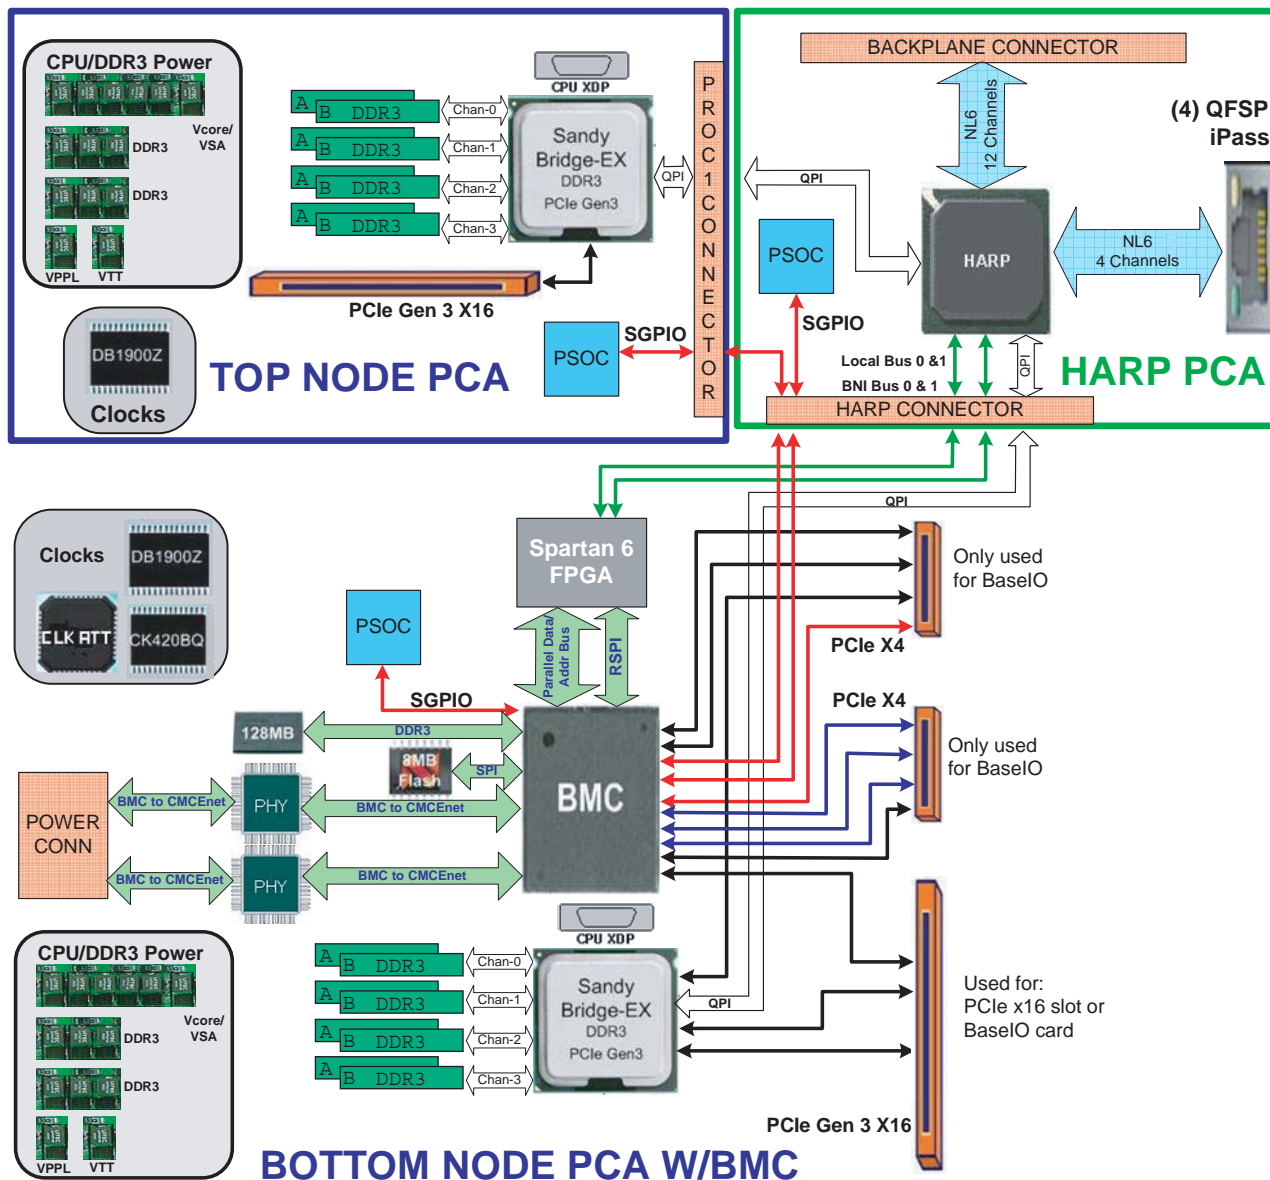

Figure 3-4 Blade Node Block Diagram Example
- If a processor accesses memory that is directly connected to its resident socket, the memory is referred to as *local memory*. Figure 3-4 on page 42 shows a conceptual block diagram of the blade’s memory, compute and I/O pathways.